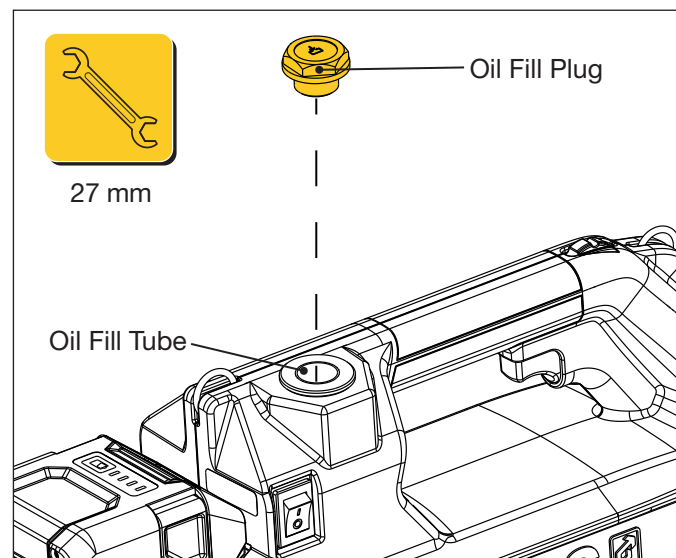

Figure 13: Oil Fill Location
3. Turn off the pump power switch (O).
5. Remove the oil fill plug from the fill opening. Use a 27 mm wrench. See Figure 13.